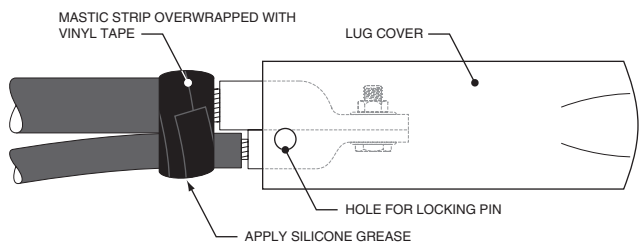

Figure 3
Note: *Position lug cover so punched holes are positioned between the two conductors (Figure 3).*
2. Separate the cables and apply mastic strip around insulation and between them at a position just onto insulation (Figure 3). *For jacketed feeder cable, see note below.* Build thickness so the overall diameter is slightly larger than the observed inside diameter of the lug cover. Press cables together and be sure that no
Note: *The kit contains a small tube of silicone grease. Use it to lightly lubricate the mastic-vinyl wrap. This will aid in installing the lug cover (Figure 3 or 4, as applicable).*